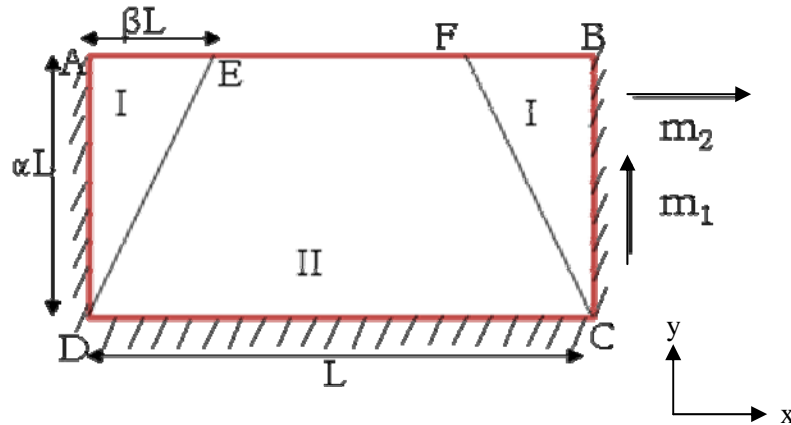

Figure 6
- b) List out the rules of yield line theory. Figure 6 portrays a yield line pattern for a slab supported at three edges only with a uniformly distributed load of  $w$  per unit area. The steel in the shorter  $y$ -direction provides a moment of resistance of  $m_2$  per unit length and the steel in the longer  $x$ -direction provides a moment of resistance of  $m_1$  per unit length. Determine the value of  $w$ .